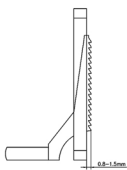

图27 (Fig.27)
送布牙 (C) 升至最高点时，送布牙齿顶与针板面的距离为 0.8-1.5mm，平均为 1.2mm。(图27)
When feed dogs (C) move to the highest position, the distance from the tips of feed dogs to the face of Needle plate is 0.8-1.5mm. The average is 1.2mm (Fig.27)。
送布牙上升至最高时应与针板平行(图27)。调整:
When the feed dogs are at the highest position they should be parallel to Needle plate surface (Fig.27)。 For adjustment: